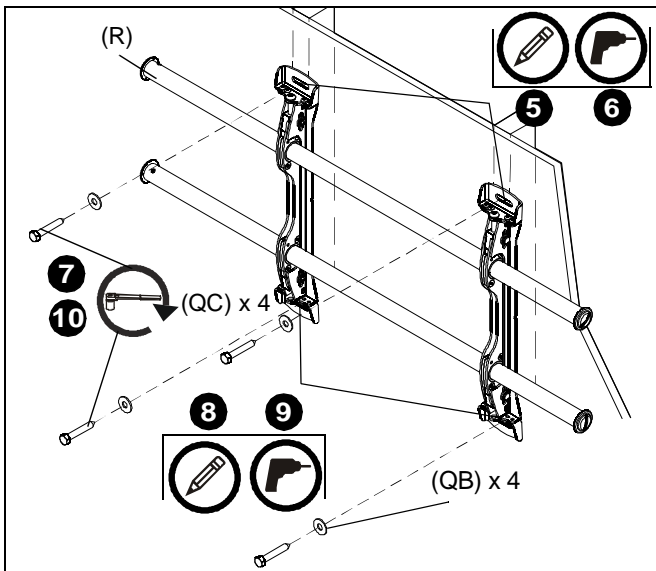

Figure 3
- Using a level, mark the wall on each stud to attach the mount through the upper mounting slots. (See Figure 3)
- Use two 5/16 x 2-1/2" lag bolts (QC) and two 5/16" flat washers (QB) to attach top of mount (R) to wall. (See Figure 3)
- Mark the attachment points for the lower mounting slots, making sure the attachment points are located on the studs. (See Figure 3)
- Drill 7/32" pilot holes at markings for lower mounting holes. (See Figure 3)
- Use two 5/16 x 2-1/2" lag bolts (QC) and two 5/16" flat washers (QB) to attach the mount to the wall through the lower mounting holes. (See Figure 3)